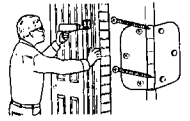

Fig. 10
10. Install four #10 x 2 1/4" wood screws through the hinge jamb and into the studs two into the top hinge in the holes closest to the weatherstrip; and one each into the other hinges in the top hole closest to the weatherstrip (Fig. 10). You may need to remove the screws supplied with the hinges to insert these longer #10 x 2 1/4" screws.